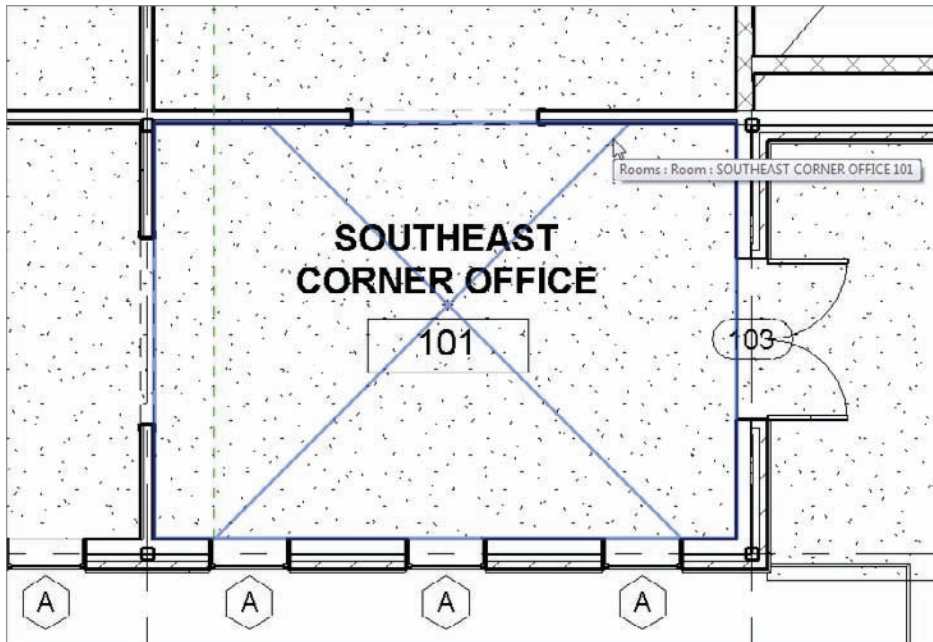

FIGURE 15.7 Hover the cursor over the room until the X appears.
2. Hover your cursor over the room until you see the X, as you can see in Figure 15.7.